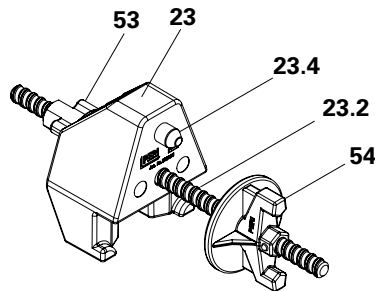

Fig. A3.09a
- DUO corner connector (Fig. A3.09a).